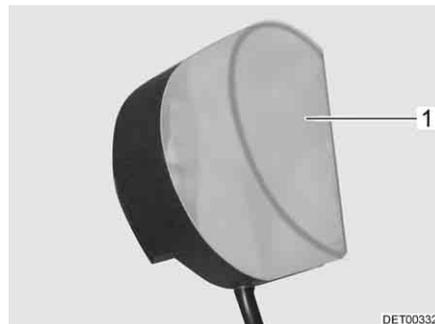

Fig. 206 Wardrobe light
- Press the light covering (Fig. 206,1) lightly together and remove it.